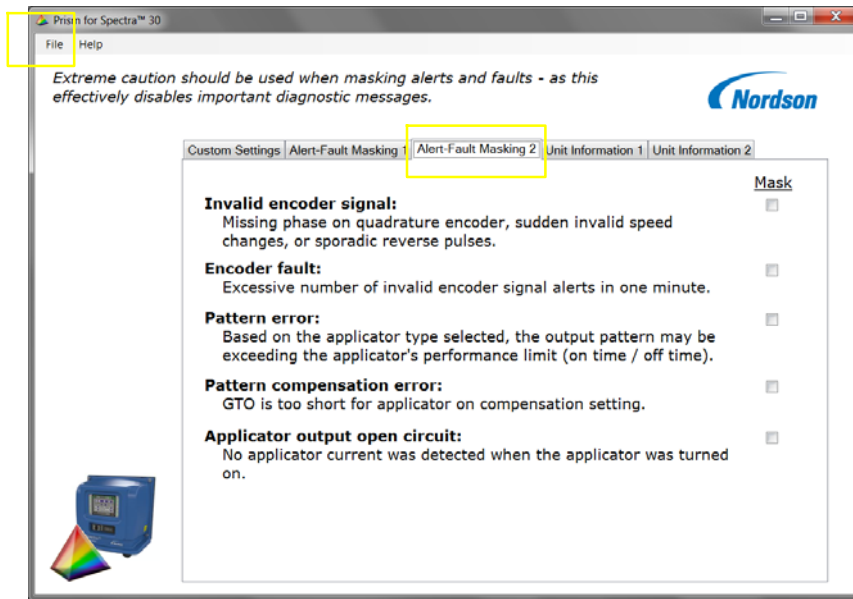

Figure B-3 Settings available in Alarm-Fault Masking 2 tab
- Alert-Fault Masking 2 tab, see Figure B-3